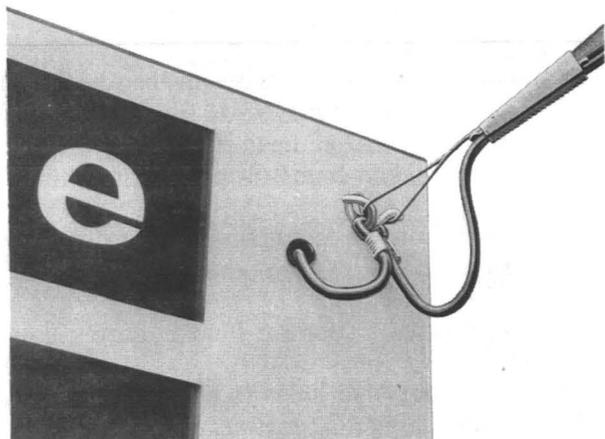
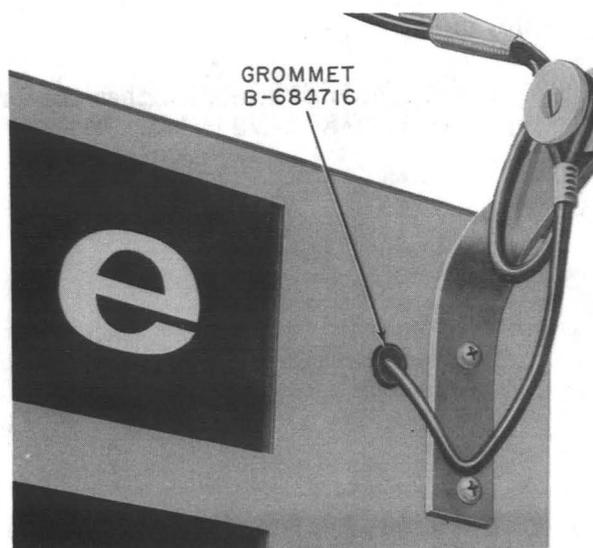

Fig. 14—Drop Wire Hook for first Attachment
Fig. 15—Corner Bracket for First Attachment
- 3.05 Attach drop wire hook (Fig. 14) or corner bracket (Fig. 15) (whichever is required) on
(a) **Drop Wire Hook:** Secure drop wire hook (Fig. 14) to clinch nut (provided with booth) using one 1/4-20 by 3/4 roundhead machine screw, one 1/4-inch flat washer, and one 1/4-inch lockwasher.
(1) Secure the corner bracket (Fig. 15) to the threaded clinch nut using one 1/4-20 by 3/4 Phillips roundhead machine screw.
(2) Using the bracket as a template, drill a clearance hole for another 1/4-inch screw.
(3) Further secure the bracket to the booth using one 1/4-20 by 3/4 Phillips roundhead machine screw, one 1/4-inch flat washer, one 1/4-inch lockwasher, and one 1/4-inch hex nut.